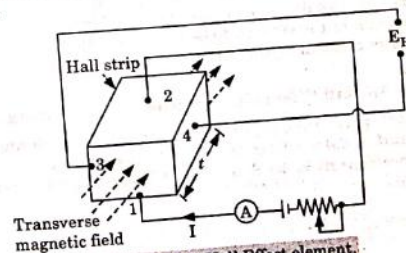

Fig. 5.17.1. Hall Effect element.
4. Let us consider Fig. 5.17.1 where current is passed through leads 1 and 2 of the strip.